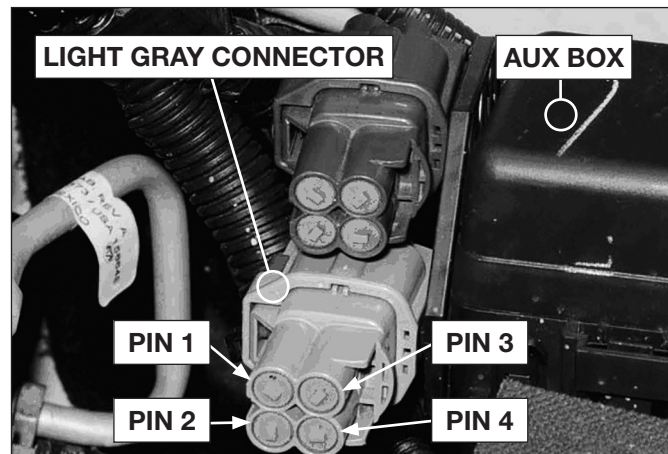

Figure 15
6. Light Gray 4-PIN Connector (**Fig. 15**).